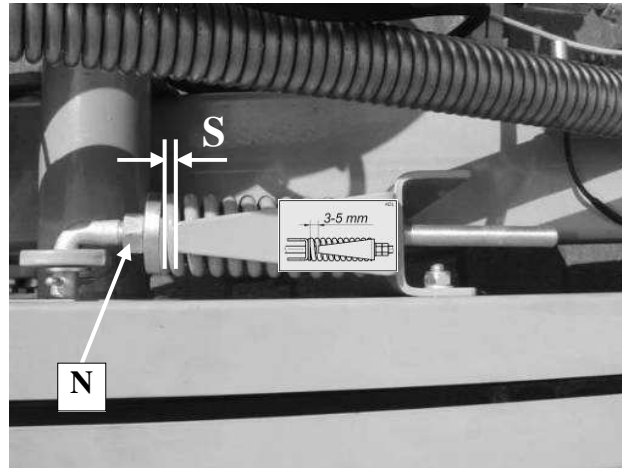

Fig. 25. Controlling tension of V-belts
Tensioning of V-belts for belt gear is checked by means of tensioner index (Fig. 25). Distance (S) should be up max. 2". If belts are too loose, tighten tensioner nuts (N). If one of the belts is damaged, the whole set must be replaced.